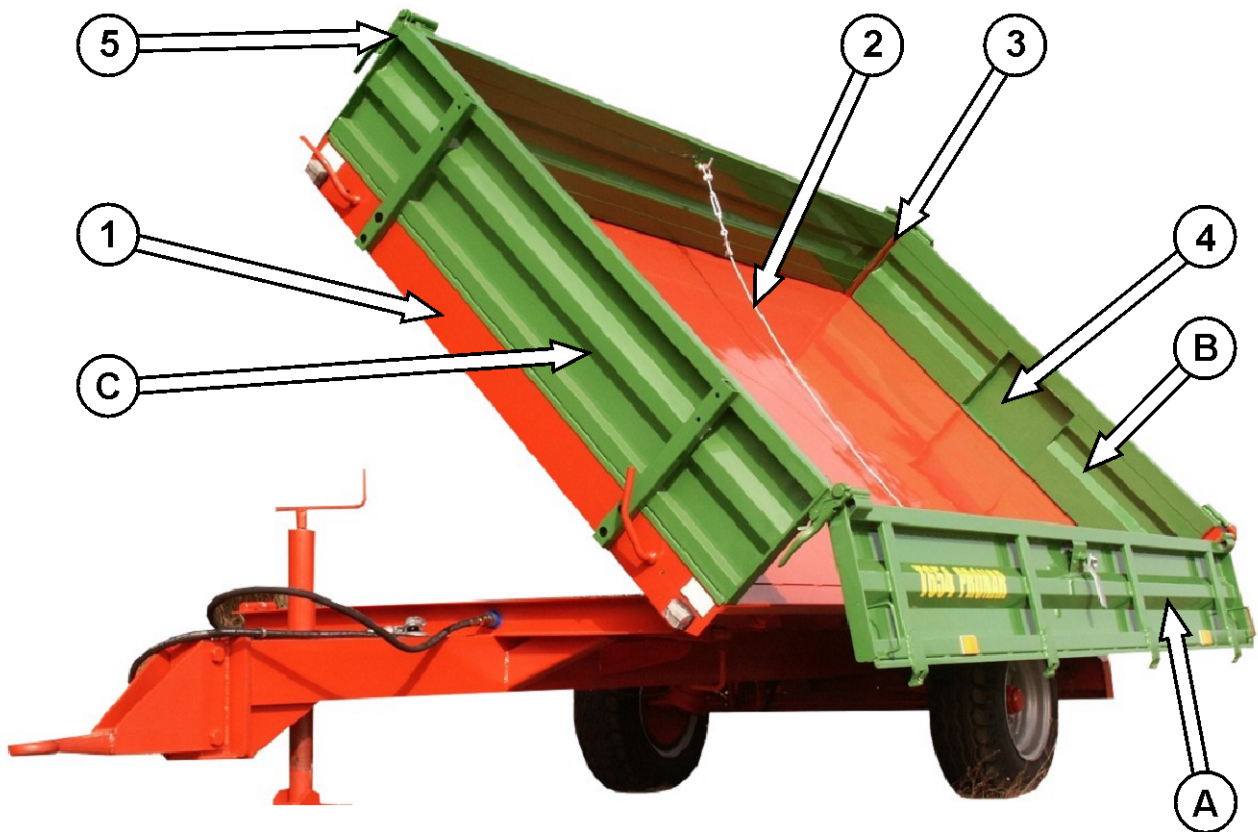

Fig. 3. Load box elements
Trailer chassis consists of subassemblies indicated on figure 3. Lower frame (1) of the load box is a structure welded from steel sections. The main support elements are two longitudinal rails connected with crossbars.